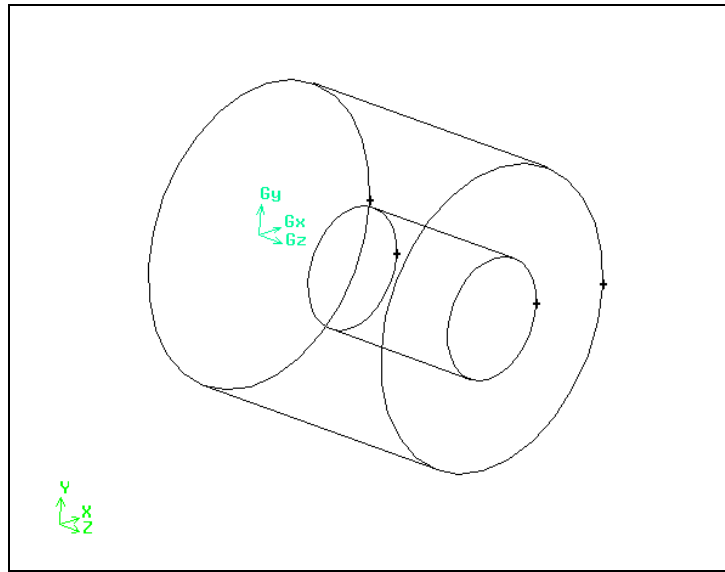

Figure 4-5: Two cylinders after moving the small cylinder
*The two cylinders are shown in Figure 4-5. Notice that the small cylinder has been moved from the back of the large cylinder to the front.*